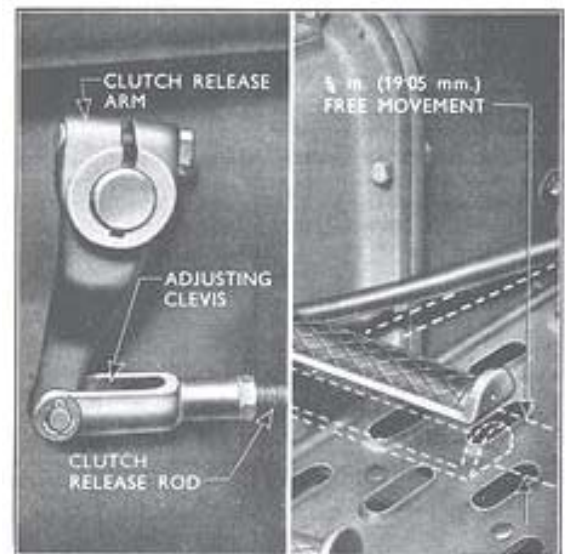

Fig. 3
The only routine adjustment necessary with regard to the single clutch is that for clutch pedal free movement. This is the initial movement of the pedal from the fully engaged position, pedal against the stop bracket, to the point where clutch resistance is felt. When correctly adjusted this movement should be $\frac{3}{4}$ in. (19.05 mm.), measured at the pedal pad (see Fig. 3). As it is most important that correct clutch pedal free movement be maintained, the movement should be checked periodically during service and adjusted when necessary to compensate
2. Unscrew the clevis from the release rod to increase the free movement of the pedal or vice-versa. Reconnect the rod to the clutch release arm with the clevis pin and check that the clutch pedal has the necessary $\frac{3}{4}$ in. (19.05 mm.) free movement at the pedal pad (see Fig. 3).